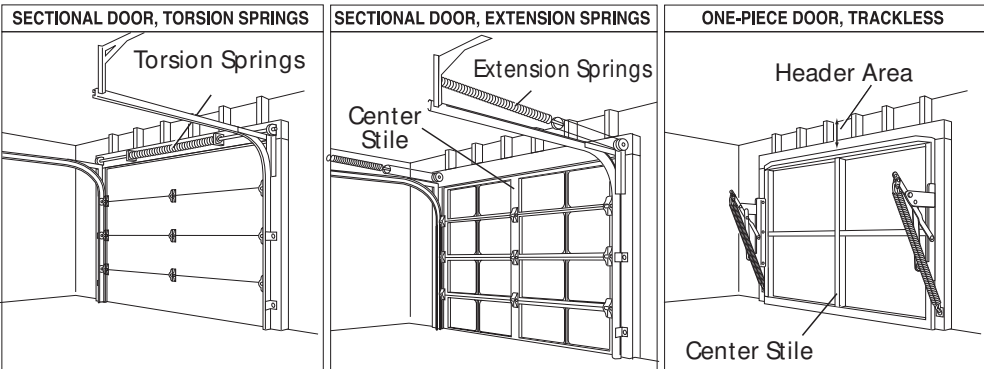

Figure 2 Note Door Type
Check condition of vertical stile (Figure 2) in center of door, and its connection to door's top and bottom beams.
- C** Check door type. Make a note of whether it is a sectional or a one-piece door (**Figure 2**).